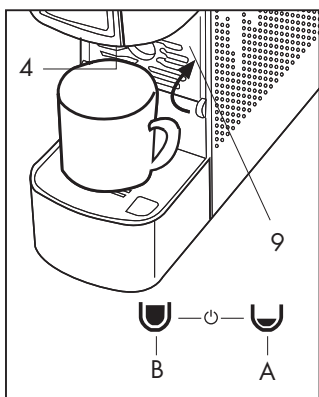

Fig. 5
The machine is rinsed when at least 3 glasses of water have been dispensed. **(Fig. 5)**
To use large cups, close the support (9) and place the cup directly on the grid of the drip tray (5) **(Fig. 5)**